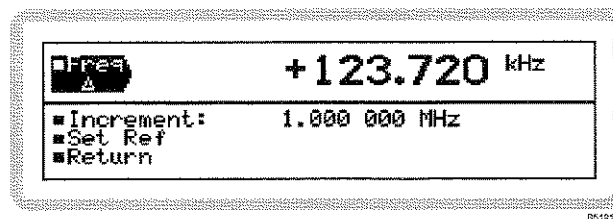

Fig. 3-20 Carrier shift and increment
- 2 Press **△** to display the screen (Fig. 3-20).